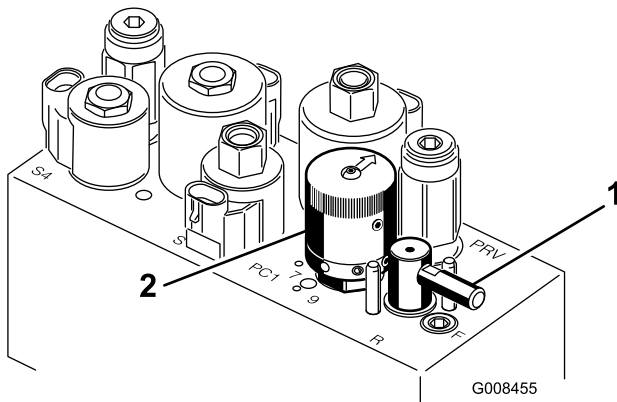

Figure 50
5. Rotate the Backlap Lever to the “R” position (Figure 50).
6. Rotate the Reel Speed Control to setting 1 (Figure 50).